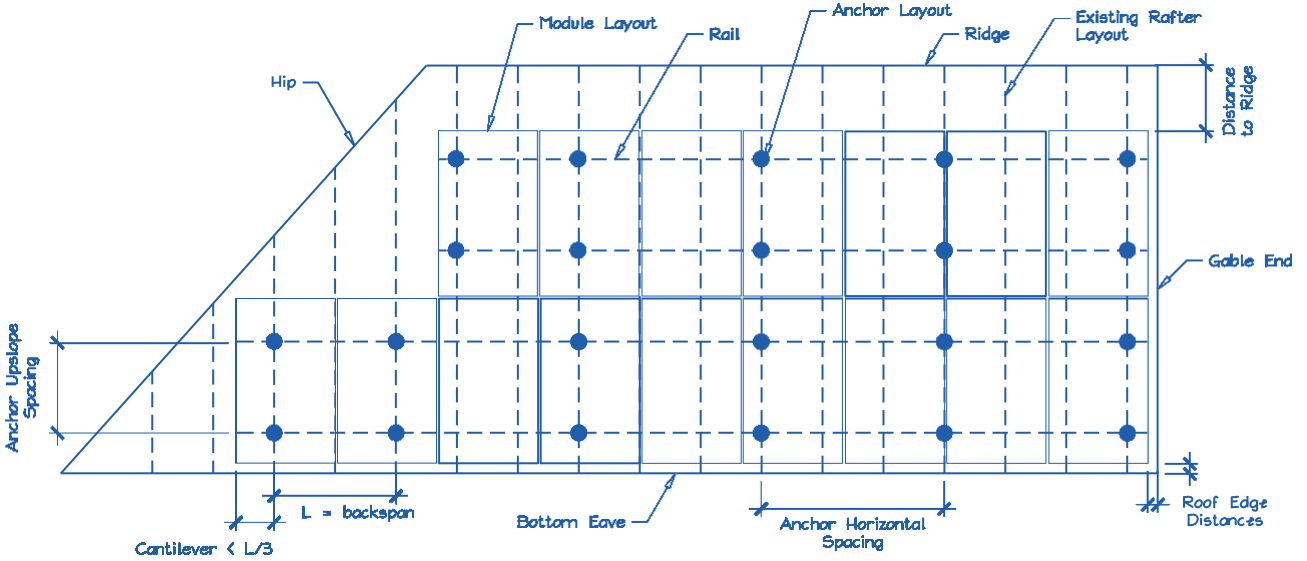

Figure 2. Sample Solar Panel Array and Anchor Layout Diagram (RoofPlan).
E. Is a roof plan of the module and anchor layout attached? (see Figure 2) Y N
- 1) Proposed anchor horizontal spacing (see Figure 2): _____' - _____"ft-in
1. Anchors are also known as "stand-offs," "feet," "mounts" or "points of attachment." Horizontal anchor spacing is also known as "cross-slope" or "east-west" anchor spacing (see Figure 2).